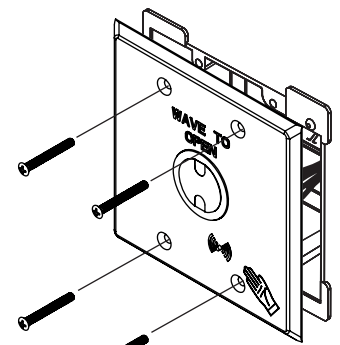

Figure 4
3. Attach Wave to Open switch to conduit housing. Conduit housing may require use of screws supplied by others. M3.5 Philips Oval Head Machine screws are provided. (Fig 4)